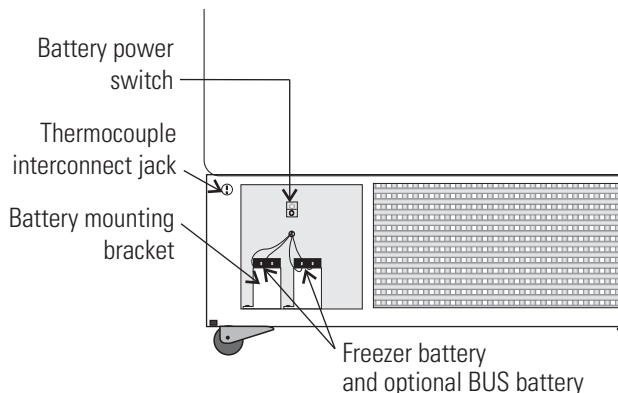

Figure 4-2. Battery Power Switch
3. Turn off the battery switch (O). See Figure 4-2.